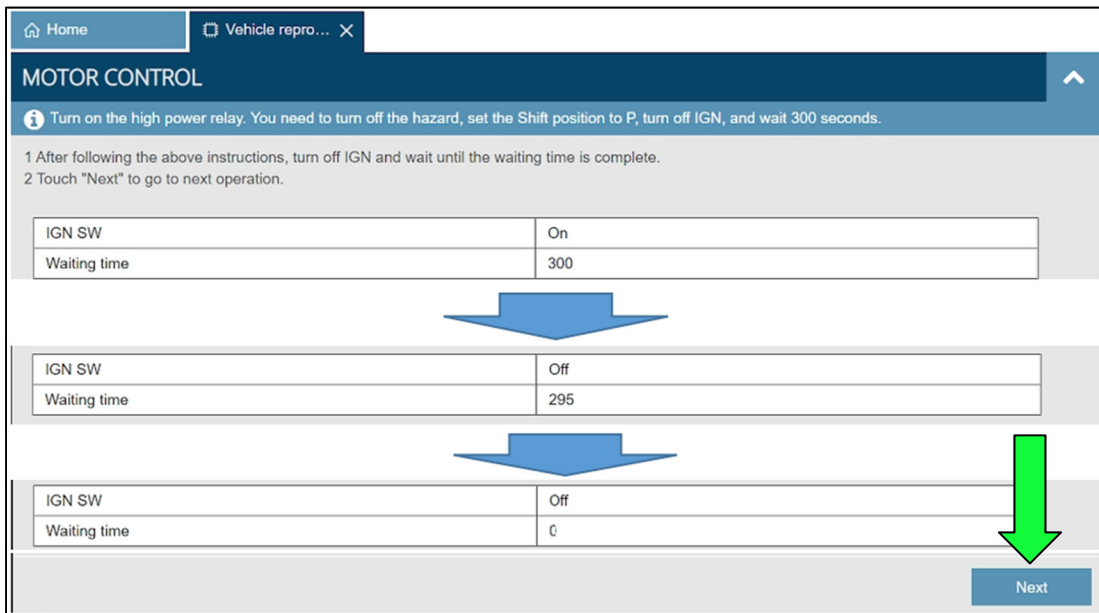
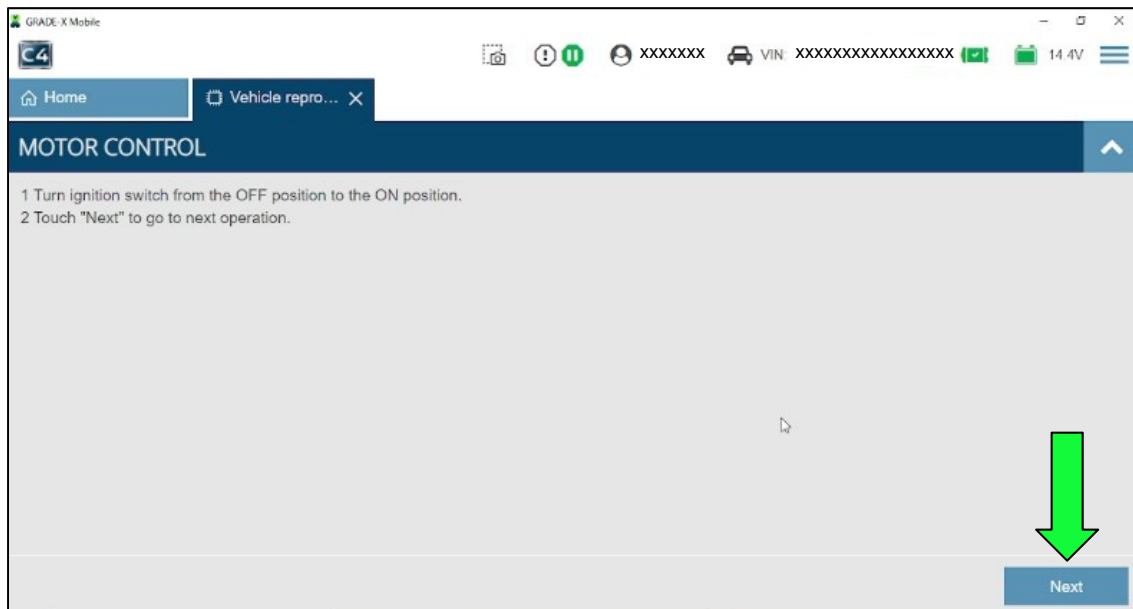

Figure 19
Figure 20
**IMPORTANT:** The screens in Figure 19 and Figure 20 will NOT display when reprogramming REAR MOTOR CONTROL on AWD vehicles.
26. Press the power switch one (1) time, to turn the ignition “Off”.